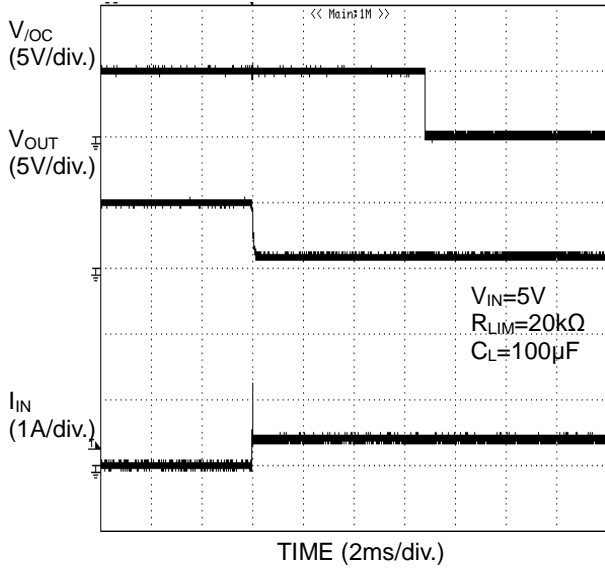

Figure 45. Over Current Response
(2) When the output short-circuits or high capacity load is connected while the switch is on, very large current flows until the over-current limit circuit reacts. When the current detection and limit circuit operates, current limitation is carried out. (See figure 45)